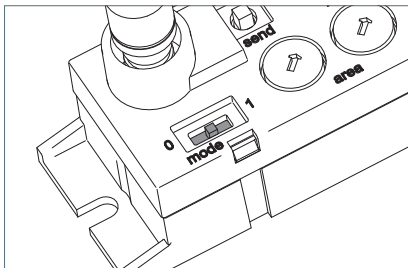

Fig. 6: Transmission activated.
- ▶ Slide the "mode" slide switch to position **1**, see Fig. 6.